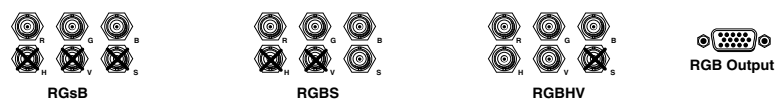

Figure 7 — Output connections
2. Use BNC connectors or a 15-pin HD connector to connect the scaler to the output device. Figure 7 shows each of the connection options.